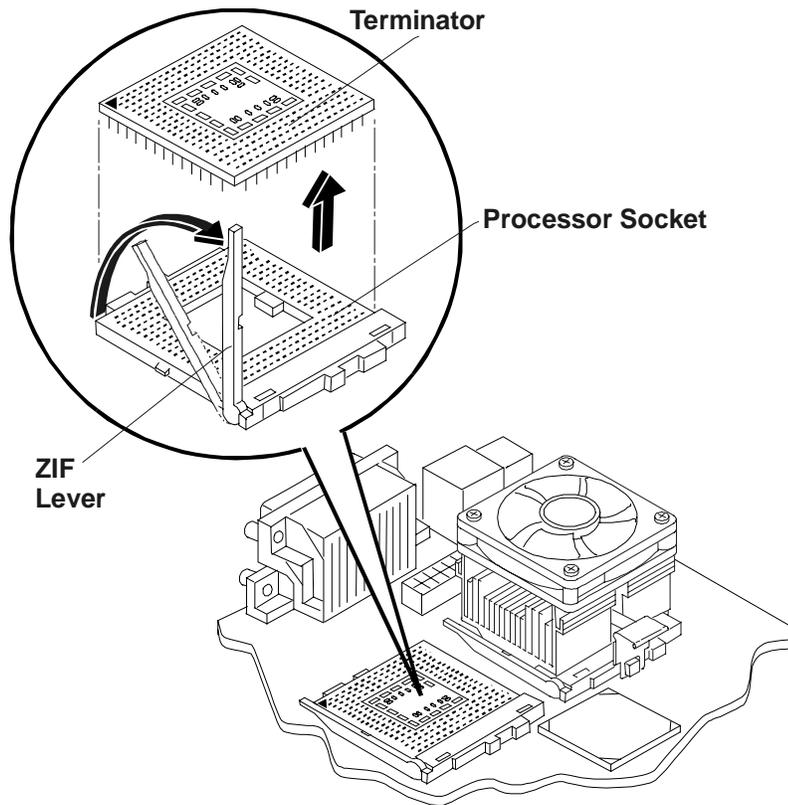

Figure 6-3. Removing the Terminator
9. Open the ZIF (Zero Insertion Force) lever to allow removal of the terminator installed in the processor socket. See Figure 6-3.
7. If you are not replacing the processor with a new or replacement processor, you must install the terminator in the empty processor socket. See Figure 6-3.